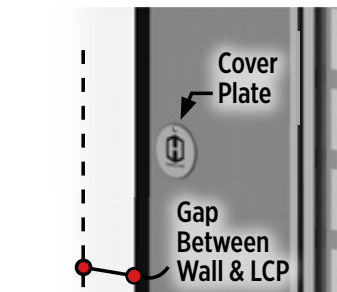
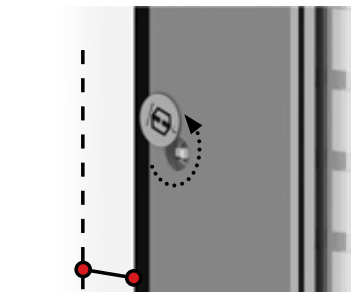

Fig. 7
Fig. 8
- b. A cover plate with Hufcor logo hides the lever activation port. Rotate this plate out of the way (Fig. 7 & Fig. 8)
- b. A cover plate with Hufcor logo hides the lever activation port. Rotate this plate out of the way. (Fig. 7)